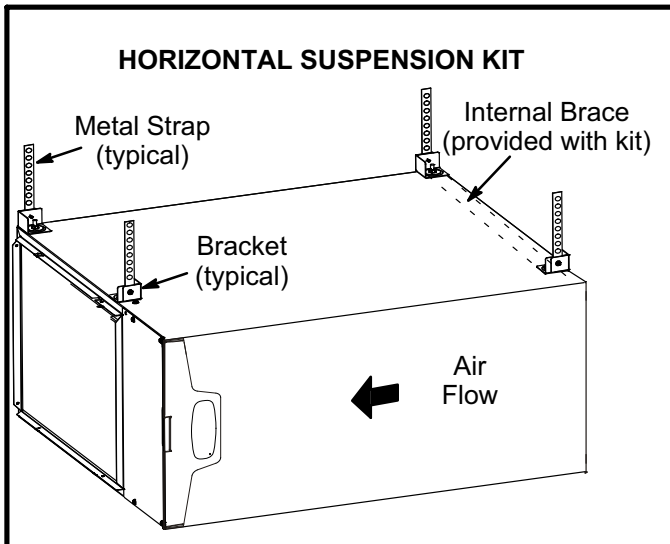
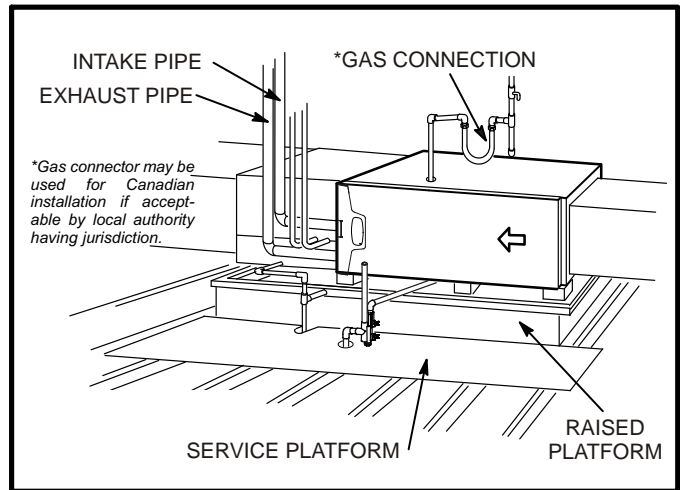

FIGURE 12
FIGURE 13
This furnace may be installed in either an attic or a crawlspace. Either suspend the furnace from roof rafters or floor joists, as shown in figure 12, or install the furnace on a platform, as shown in figure 13. A horizontal suspension kit (51W10) may be ordered from Lennox or use equivalent.
- 2 - Construct a raised wooden frame and cover frame with a plywood sheet. If unit is installed above finished space, fabricate an auxiliary drain pan to be installed under unit. Set unit in drain pan as shown in figure 13. Leave 8 inches for service clearance below unit for condensate trap.